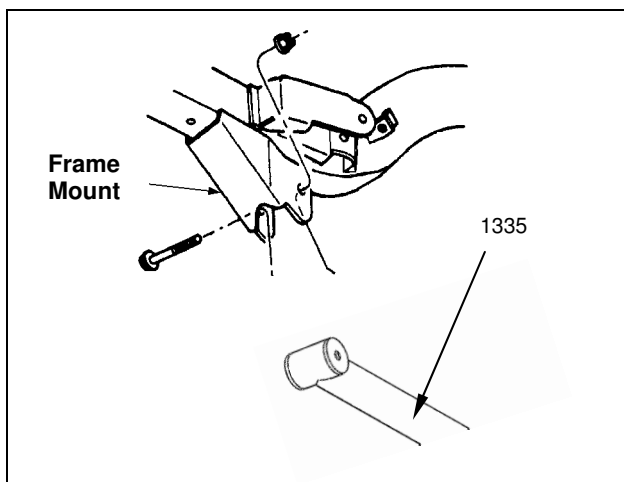

Figure 14
- 3)  Install new Rancho suspension link 1335 to the frame and axle brackets. See figure 14. Use original hardware but do not tighten. Tightening the bolts at this point could create ride height issues.